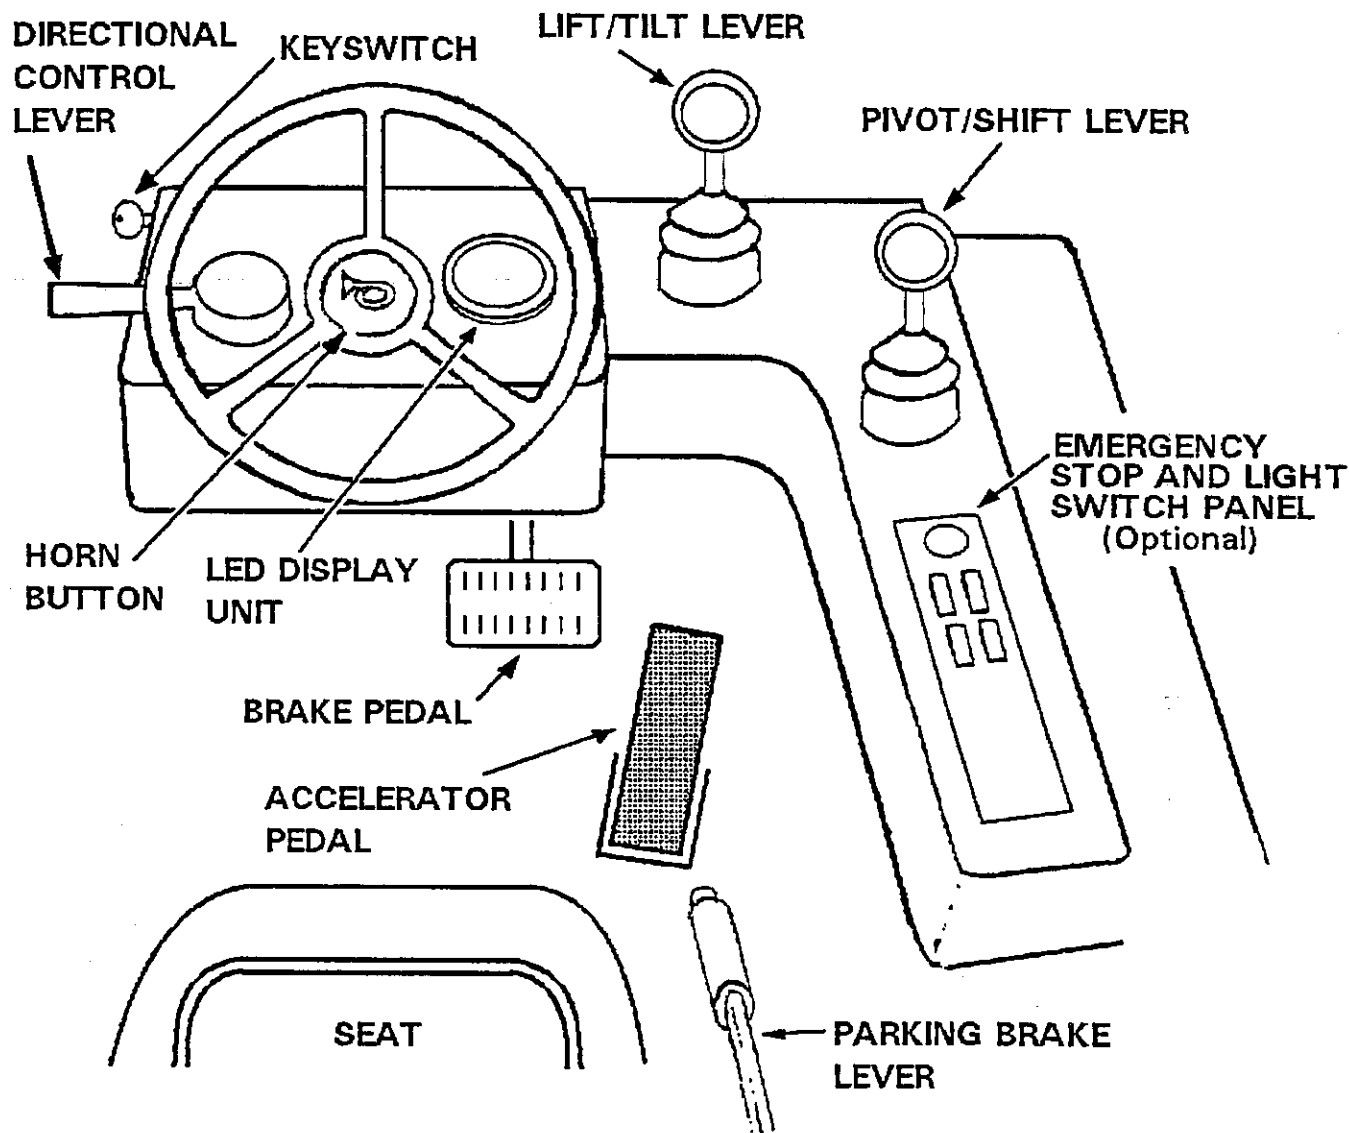

Figure 3-1. Location of Operating Controls.
**Seat switch** - Prevents the truck from operating unless you sit on the seat (not shown in Fig. 3-1).